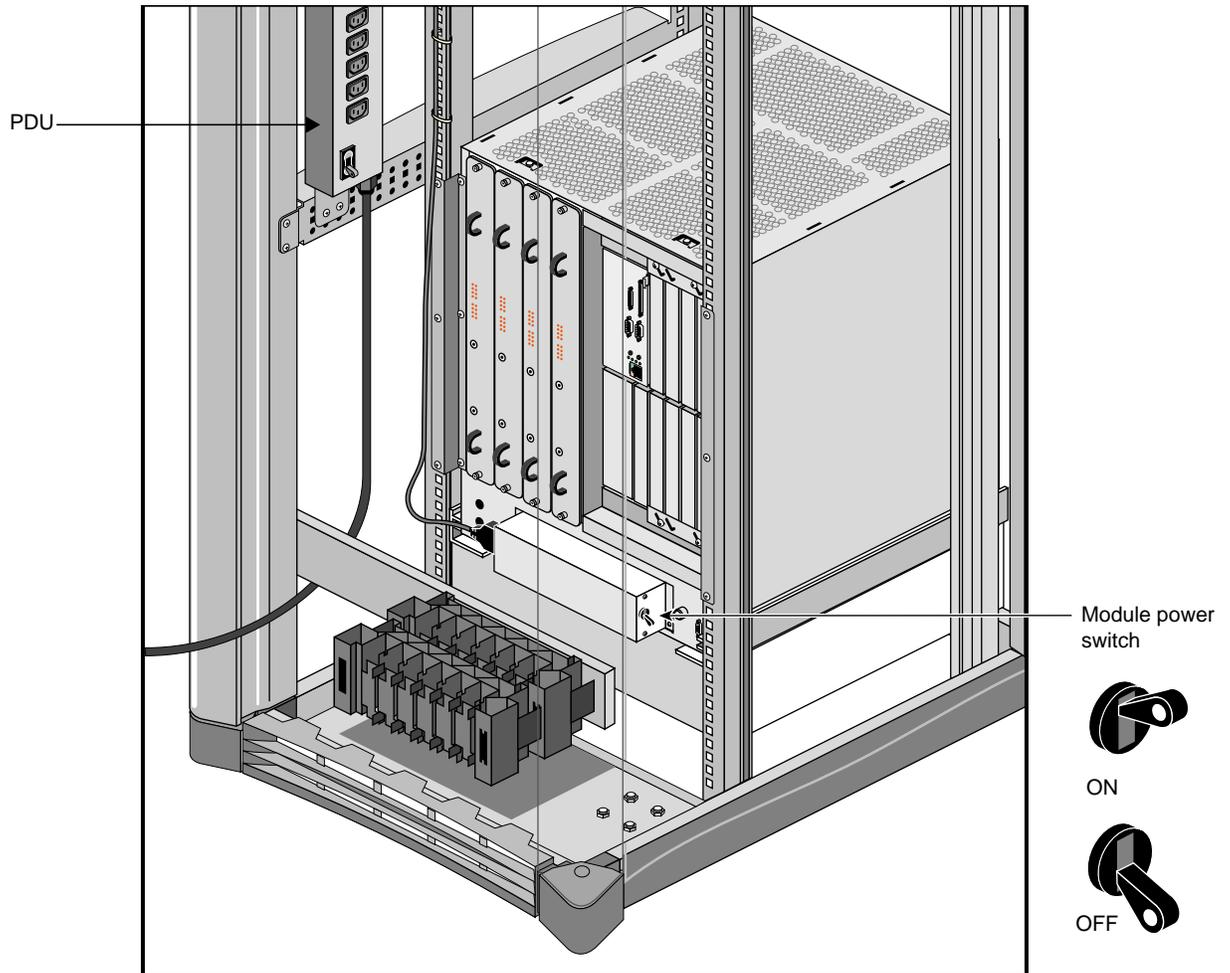

Figure 1-2 Module Main Power Switch
4. Power off the module that displayed the I2C FAIL message by pushing down the main power switch on the rear of the module; see Figure 1-2.